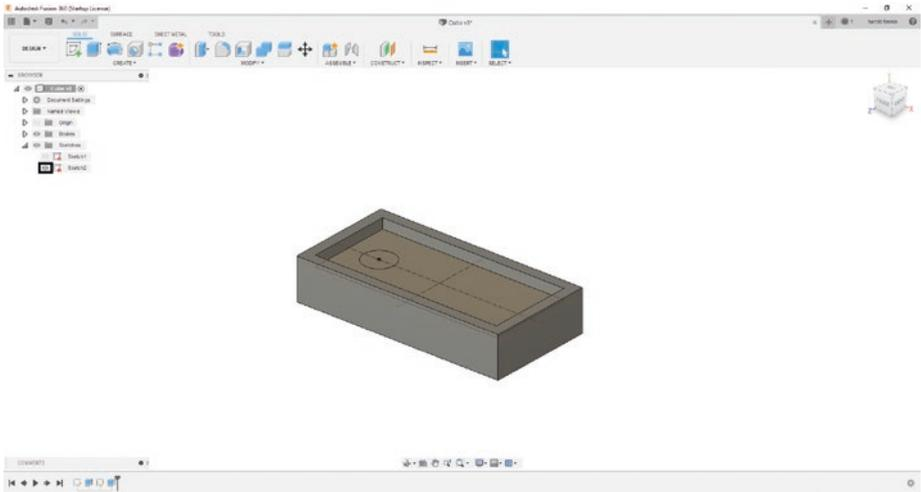

Figure 3-71. Show Sketch using the Browser menu
26. Once you press the “Enter” key, the sketch goes away; to bring the sketch back up, all you need to do is go to the Browser menu and go to Sketches and click this button  on Sketch2 to view the sketch. See Figure 3-71.